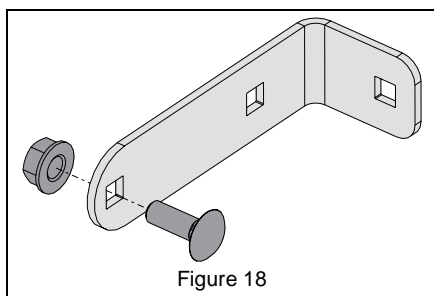

Figure 18
1. Remove hardware retaining L-bracket to battery bracket and reinstall hardware into L-bracket hole nearest curved edge. See Figure 18.